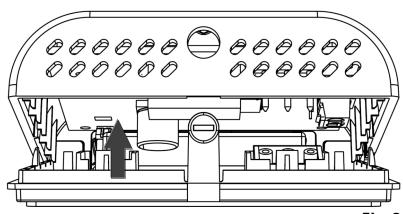

Fig. 3
- Lift up the cover, while pressing it slightly, until it is fully extracted (Fig. 3).